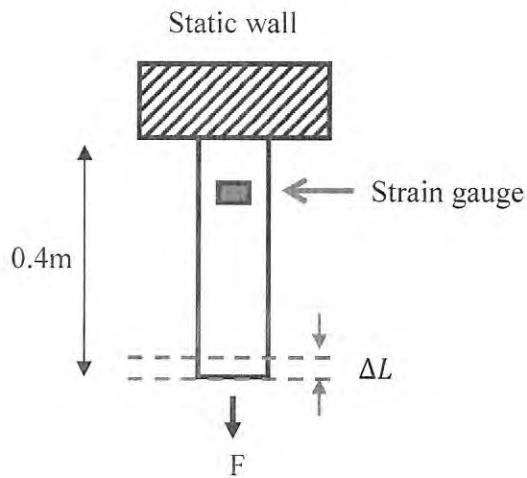

Figure Q1(c)
- (c) A simple force transducer is illustrated in **Figure Q1(c)**. A round steel bar, 0.02m in diameter and 0.40m in length, is subjected to a tensile force, **F** of 33,000kg, where the steel Young Modulus,  $E = 2 \times 10^{12} \text{ kg/m}^2$ .